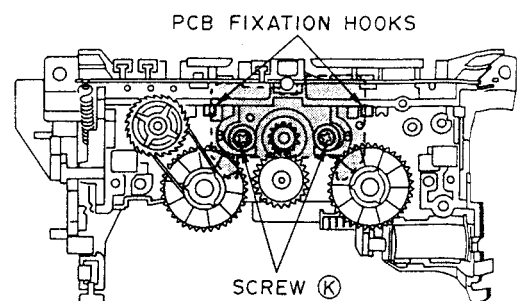

Fig. 3-12
- 3) Release the two hooks which retain the REEL PULSE DETECTION PCB and remove the PCB. (Refer to Fig.3-12)
- 4) Remove the springs of the assist lever (A) and (B).
- 5) Extract the assist lever (A) and (B).